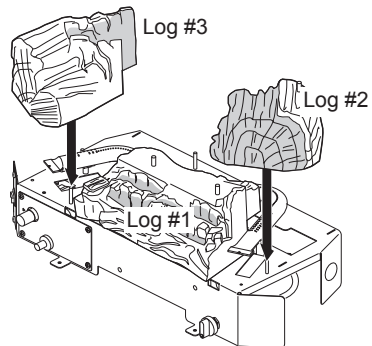
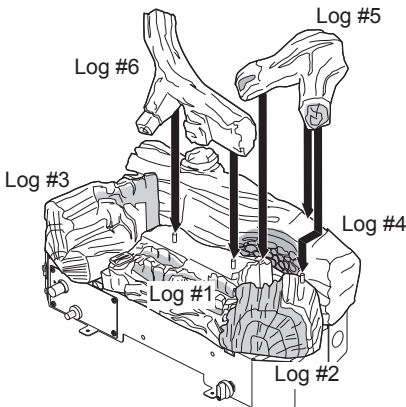

Figure 19 - Installing Log #2 (Right) and Log #3 (Left)
Figure 21 - Installing Log #5 (Right) and Log #6 (Left)
2. Place log #2 to the right of log #1. Log #2 will wrap around right end of rear burner and sit on log alignment screw (see Figure 19).
3. Place log #3 on left side of base and onto alignment screw to right of rear burner (see Figure 19). Log #3 will wrap around left end of rear burner.
5. Place back of log #5 on notch in log #4 (as shown in Figure 21), across back part of log #1 and onto pin on log #2 (see Figure 19, page 18 and Figure 21).
6. Place log #6 onto two pins on log #1 (ember bed) and rest back of log #6 on back log #4 (see Figure 21).